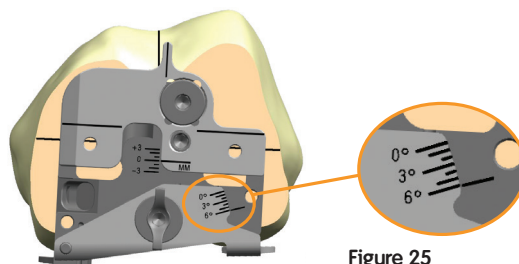

Figure 25
4. Ensure that the lateral paddle contacts the posterior lateral condyle. Begin with the paddle set to 3°. Rotate away from 3° if it is desirable to match the A/P or epicondylar axis or if it is desirable to balance the medial and lateral flexion gaps (Figure 25).